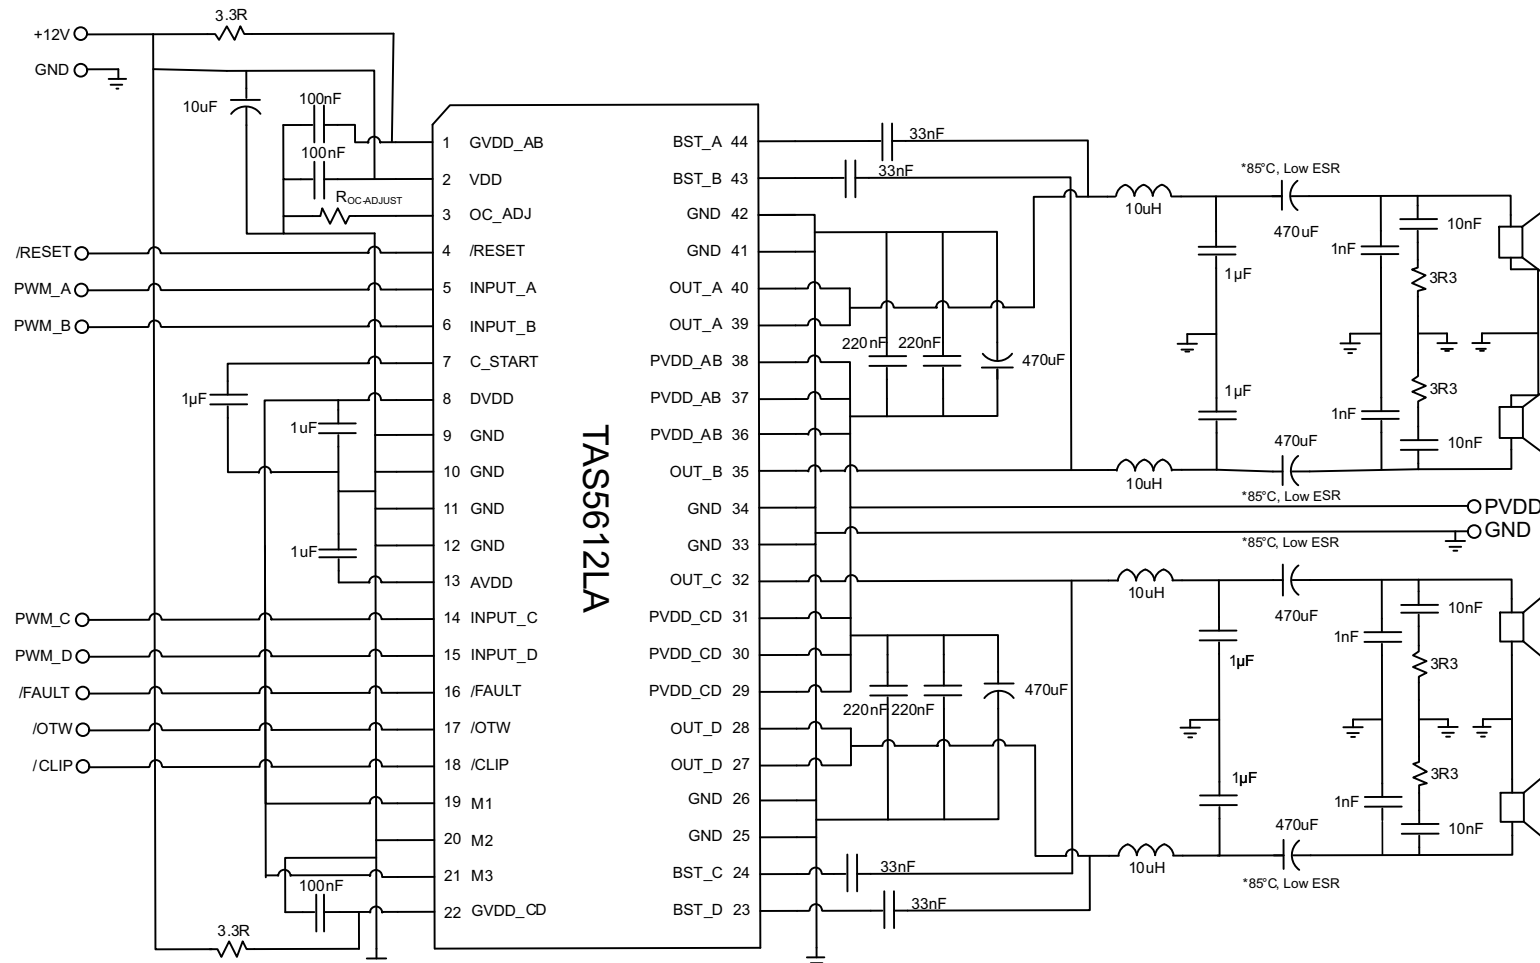

图 22. Typical (1N) SE Application
See 图 22 for application schematic. In this application, four single-ended PWM inputs are used with AD modulation from the PWM modulator such as the TAS5558. AD modulation scheme is defined as PWM(+) is opposite polarity from PWM(-). The single-ended (SE) output configuration is often used to drive 4 independent channels in one TAS5612LA device.
- Pins 27, 28, 32, 35, 39, 40 - Output pins from half-bridges A, B, C, and D. Connect appropriate bootstrap capacitors and differential LC filter as shown in 图 22.
- Pins 29, 30, 31, 36, 37, 38 - Power supply pins to half-bridges A, B, C, and D. A and B form a full-bridge and C and D form another full-bridge. A 470-uF bulk capacitor is recommended for each full-bridge power pins. Two 0.22-μF decoupling capacitors are placed on each full-bridge power pins. See 图 22 for details.